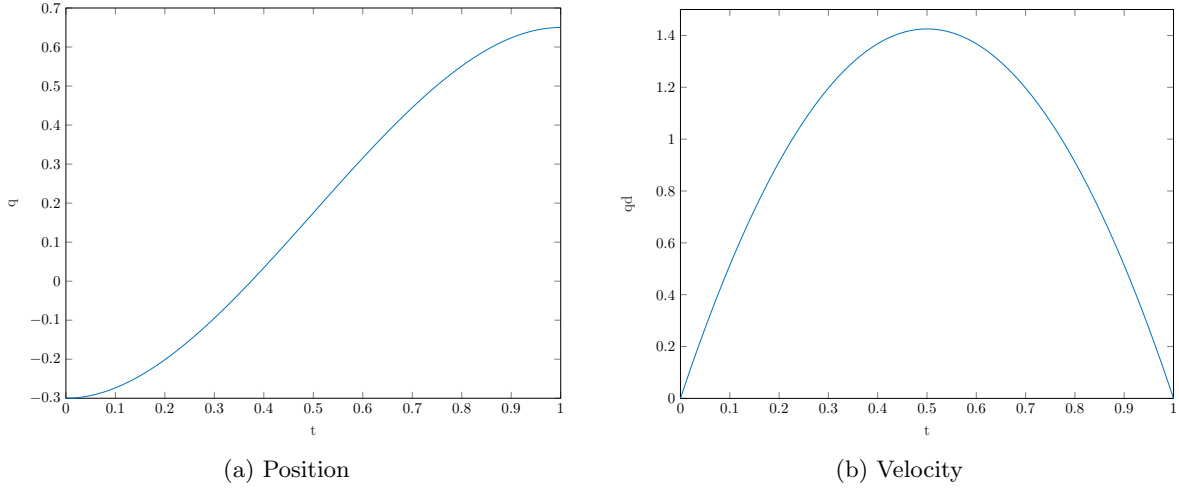

Figure 2: Example of a cubic polynomial trajectory.
- **Cubic polynomial:** Figure 2 is the result of fitting a cubic polynomial with the constraints: $q(t = 0) = q_0$, $q(t = T) = q_{\text{end}}$, $\dot{q}(t = 0) = 0$, $\dot{q}(t = t_{\text{end}}) = 0$.